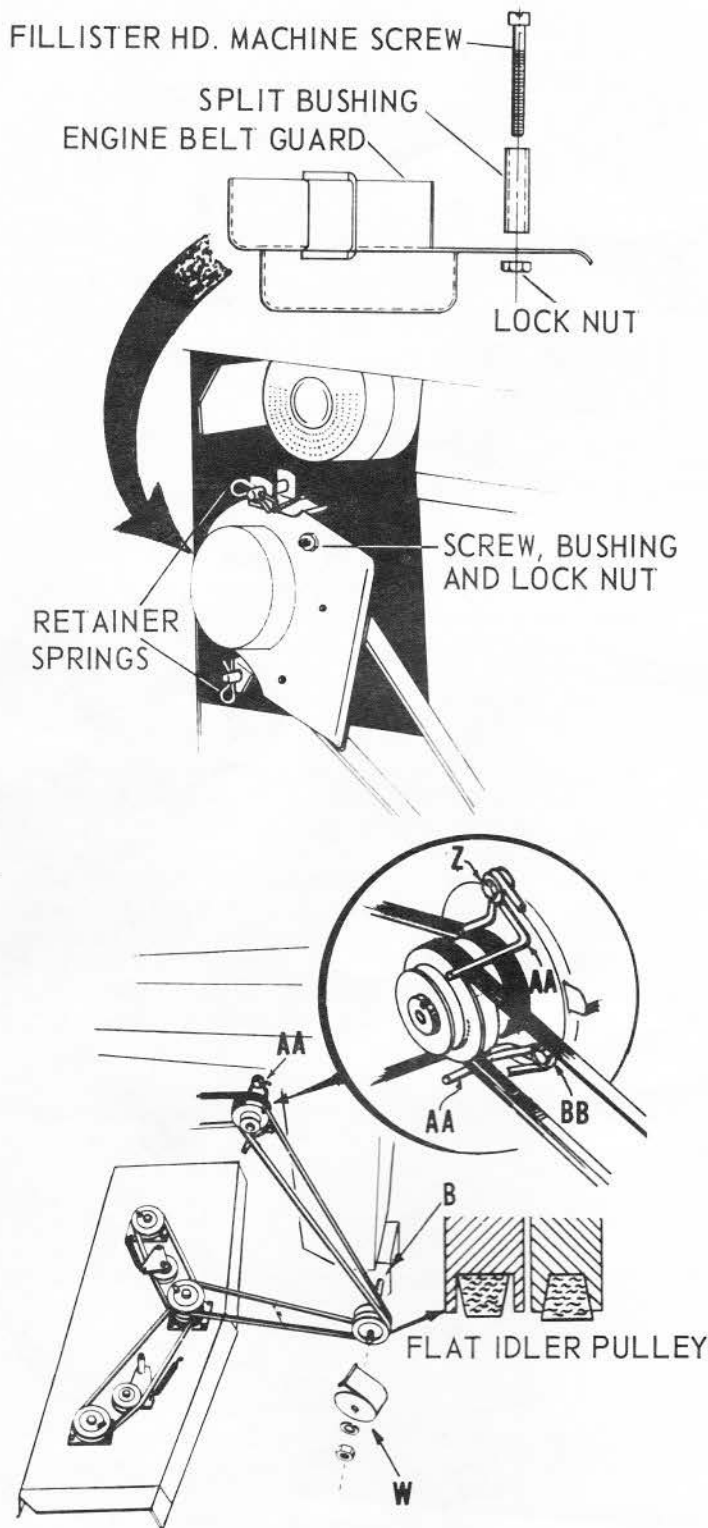

FIG. 9
10. Remove nut, lockwasher, and belt guard (W), from front idler shaft (B). Place belt on idler sheaves and on engine pulley as shown in Fig. 9. Replace belt guard (W), and secure with nut and lockwasher.
IMPORTANT: Mower belt will be in 3rd. groove of engine pulley from engine. Refer to Fig. 9 for proper installation of belts on idler pulleys. Back of belt must be against the flat idler as shown.
12. Refer to Fig. 9. Remove bolt (Z), from upper belt guide at engine pulley. Assemble belt guide (AA), over short belt guide with washer between belt guides. Secure with $3/8 \times 1/4$ hex bolt and extra thick washer. Bolt and washer shipped in bag of parts.
13. Remove bolt (BB), from lower belt guide and assemble other belt guide (AA), to engine as shown in Fig. 9. Assemble lower belt guide over washer and existing belt guide in same manner as stated in step 12 above. New lower belt guide (AA), must be as close to existing tractor belt guide as possible and as far to the rear as possible. All belt guides must clear belts by $1/8$ inch when belts are tight. Tighten bolts securely.
14. When mounting this Mower on a tractor equipped with a belt guard weldment (upper half of Fig. 9), over the engine pulley, the belt guides (AA, under bolt Z, Fig. 9), will not be on tractor. Also, other belt guides (AA, under bolt BB, Fig. 9), will not be used. Assemble bolt, bushing and nut found in plastic bag shipped with tractor, to upper hole in belt guard weldment, this acts as a belt guide. Discard 4775H belt guides, bolts and washers furnished with the Mower.
Belt guard (W), must clear belt by $1/8$ inch when belt is tight and Mower is in lowest position. Refer to Fig. 9.